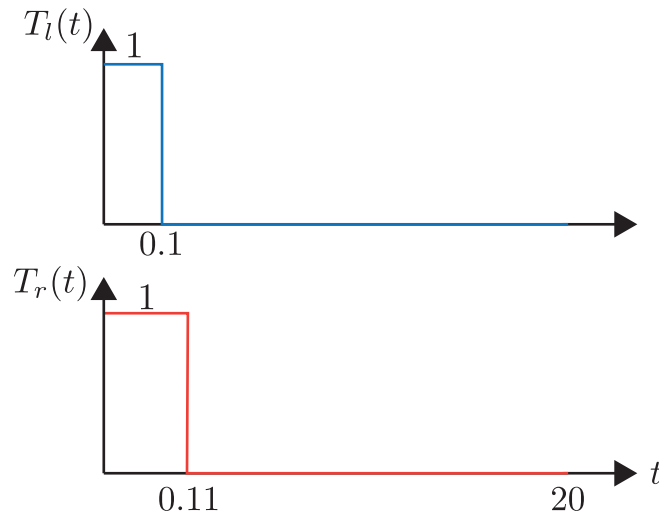

Figure 2: Inputs Profile.
- (a) Generate the torque inputs $T_l(t)$ and $T_r(t)$ as illustrated in Fig. 2. Use a time horizon of 10,000 steps spanning from $t = 0$ to $t = 20$ seconds. Display these inputs in a separate figure.